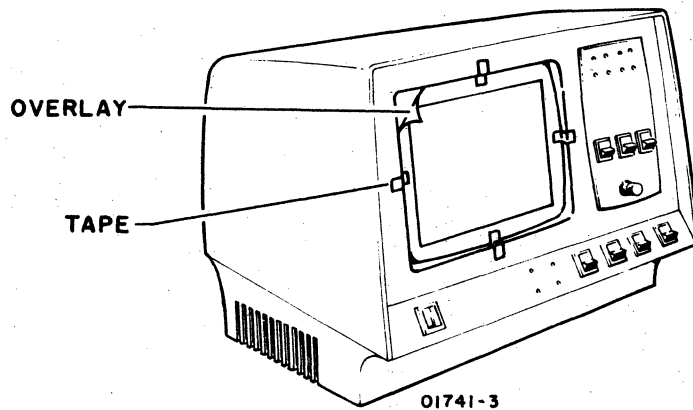

Figure CRT46. Applying Plastic Overlay to CRT Screen
- 18) Using masking tape, fasten the overlay over the screen (figure CRT46).